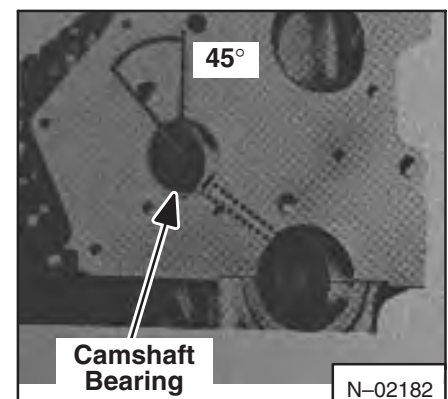

Fig. 7B-56 Crankshaft Bearing Position
Make sure that the oil holes in the bearings and the cylinder block are in correct alignment before installation and that the bearing openings are at  $45^\circ$  to the vertical (Fig. 7B-56).
3. Remove the crankshaft rear oil seal bracket (Fig. 7B-54).